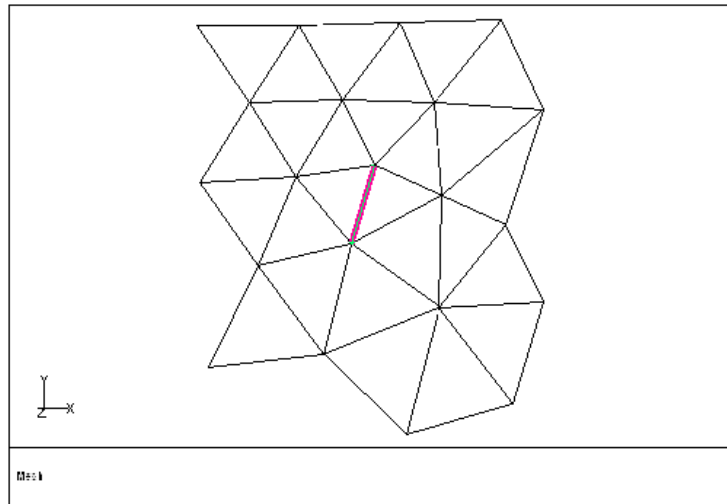

Figure 1.20: Edge Selected for Splitting
- (b) Select the edge to be split (Figure 1.20).